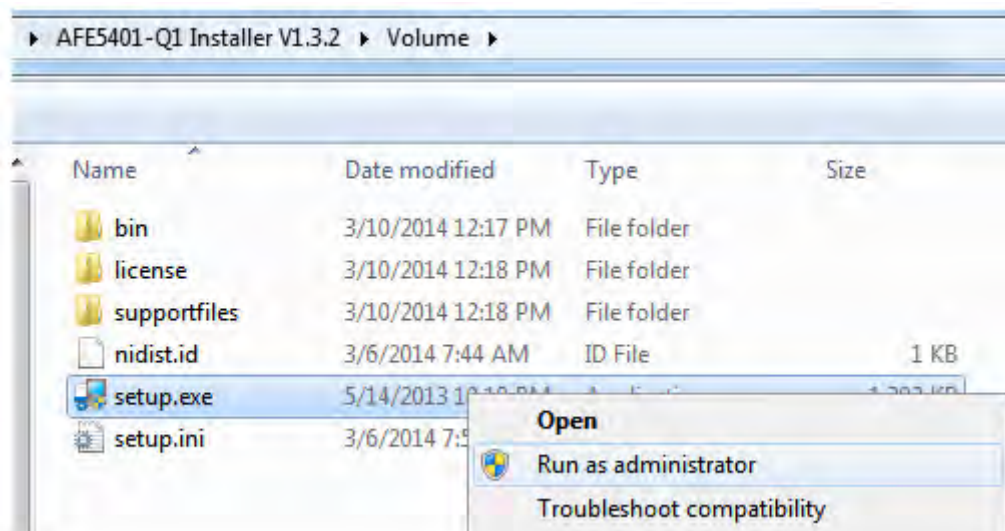

**Figure 10. HSDCpro Install (i)**
7. As shown in Figure 10, a computer restart might be requested depending on whether or not the PC already has the National Instruments' MCR installer. If requested, hit the *Restart* button to complete the installation.